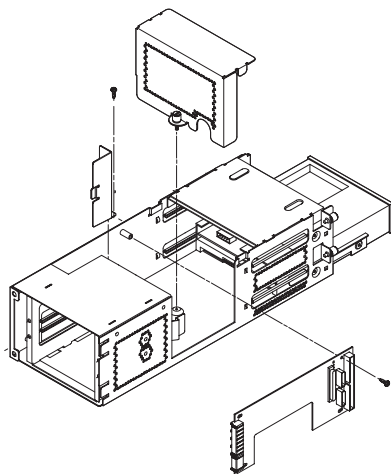

Figure 5-52. Removing the SCSI Disk PCA
2. Remove the screw holding the peripheral baffle in place as shown in Figure 5-52.